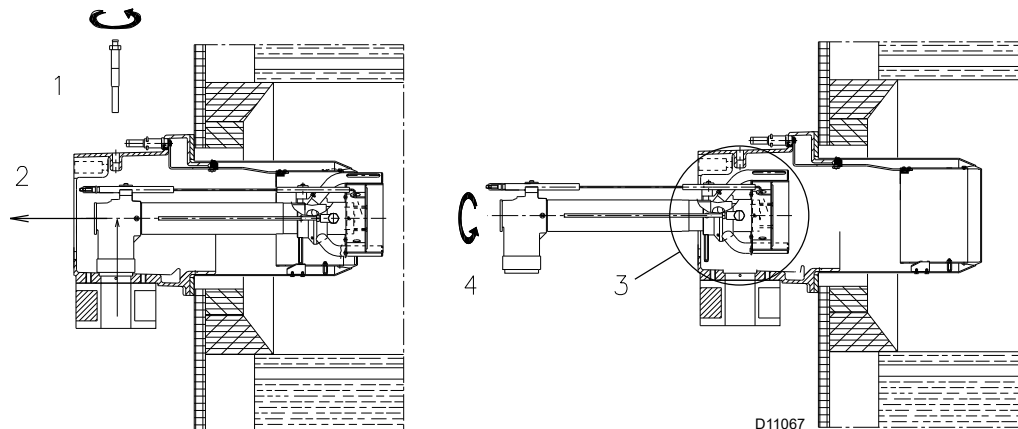

Fig. 14
RLS 200/E (Fig. 14)
- remove screw 1)(Fig. 14);